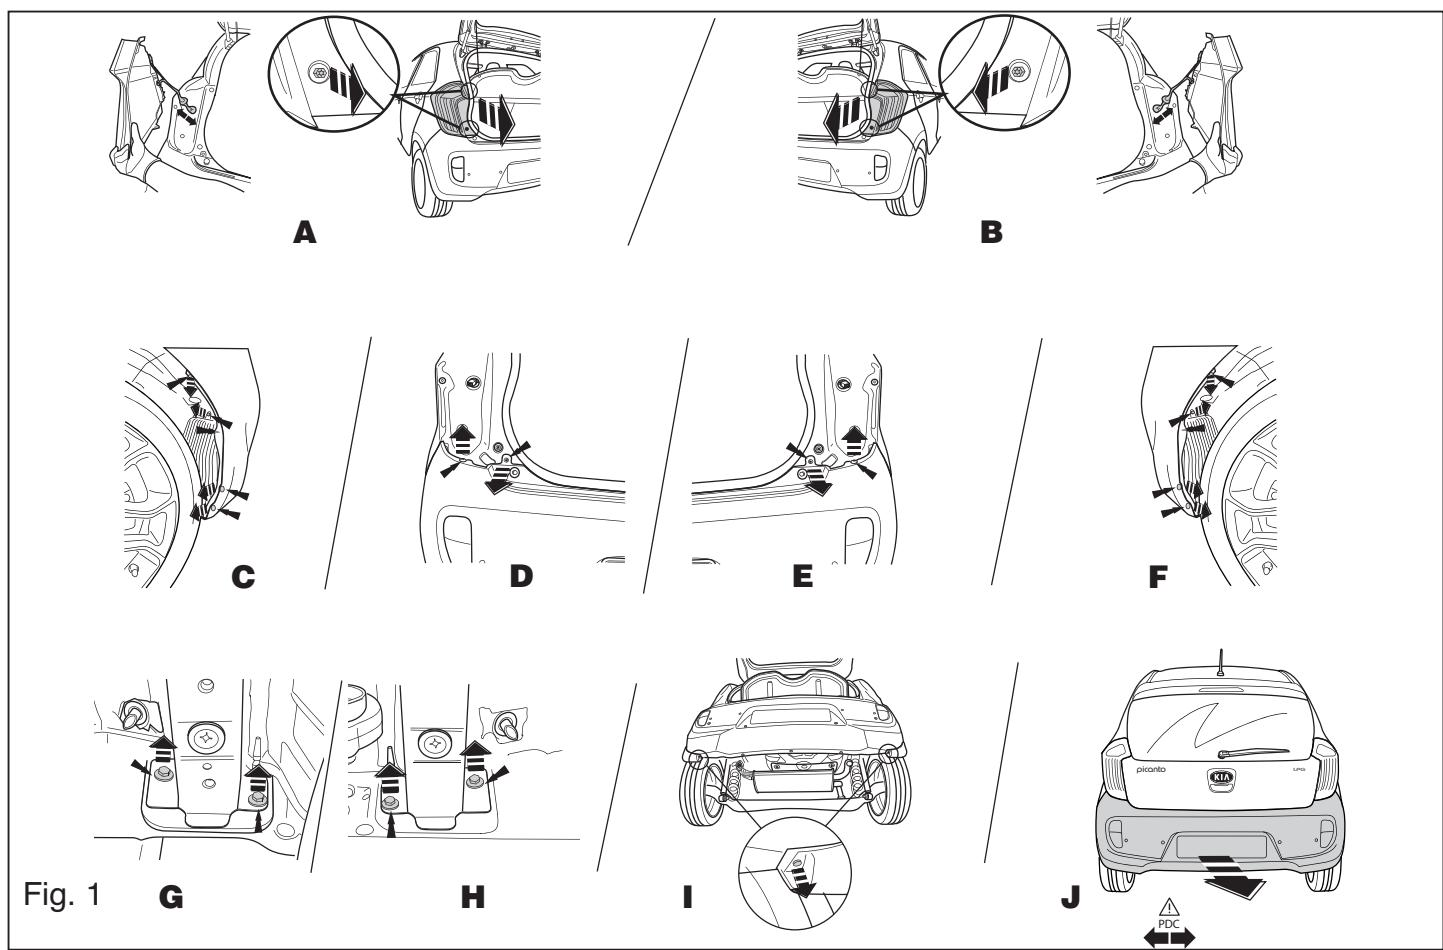

Fig. 1
2. Remove the bumper and the steel buffer beam from the vehicle. See fig. 1.